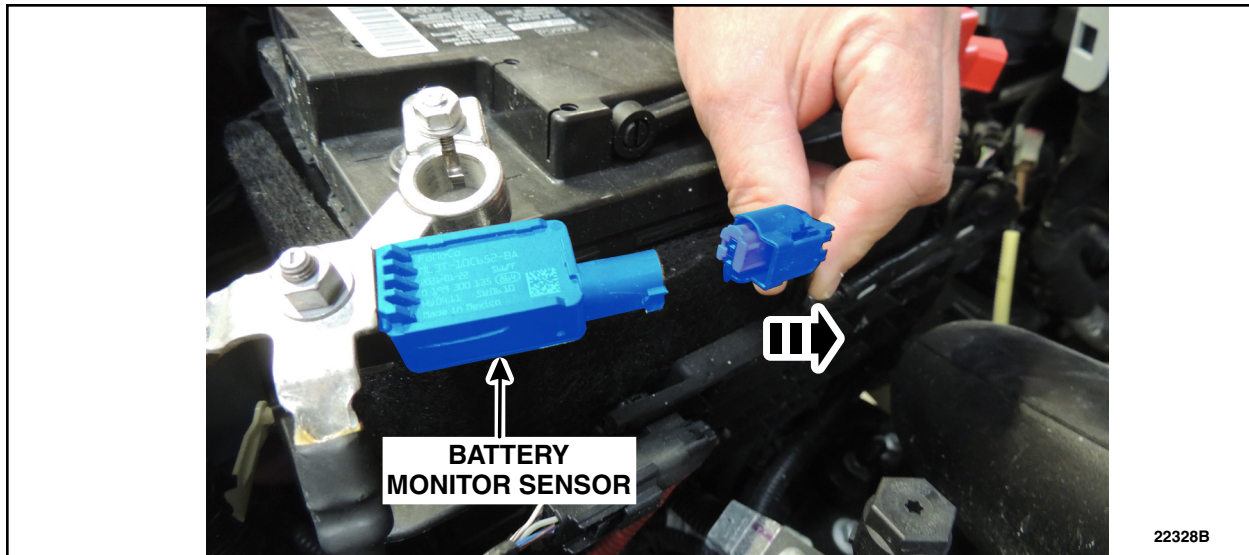

FIGURE 2
5. Disconnect the Battery Monitor Sensor. See Figure 2.